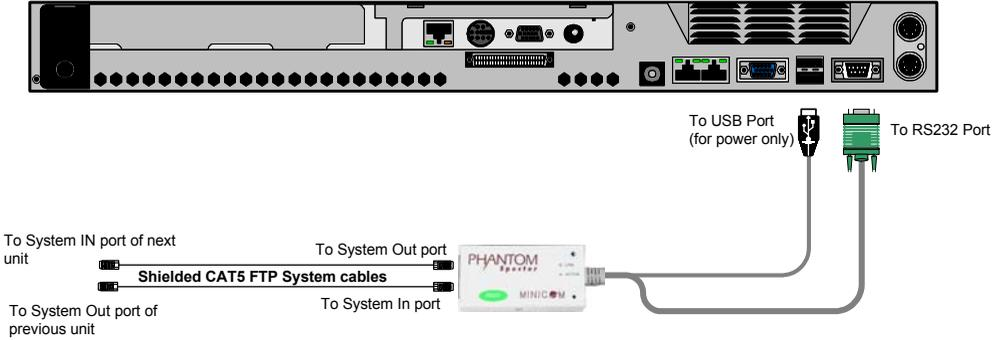

Figure 14 The Specter RS232 connections
1. USB connection for power only – see Figure 14.